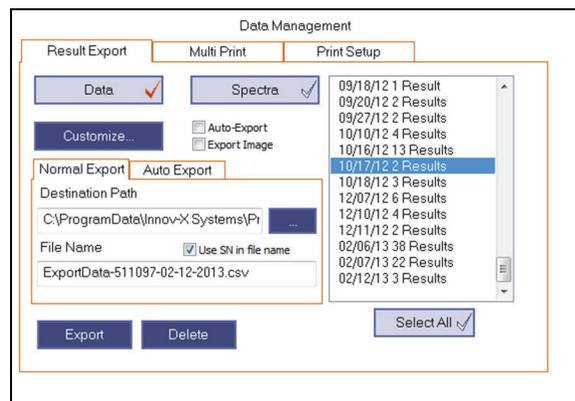

Figure 1-25 The Data Management – Result Export tab
1. Click the **Data Management** icon to display the **Data Management** pane (see Figure 1-25 on page 21).